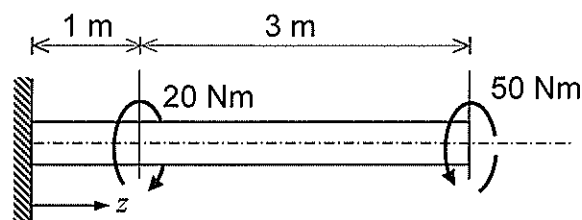

Figure 3b
- (b) Figure 3b shows a uniform solid circular section bar of radius 40 mm. The bar is rigidly supported at one end and is subjected to two torques as shown.